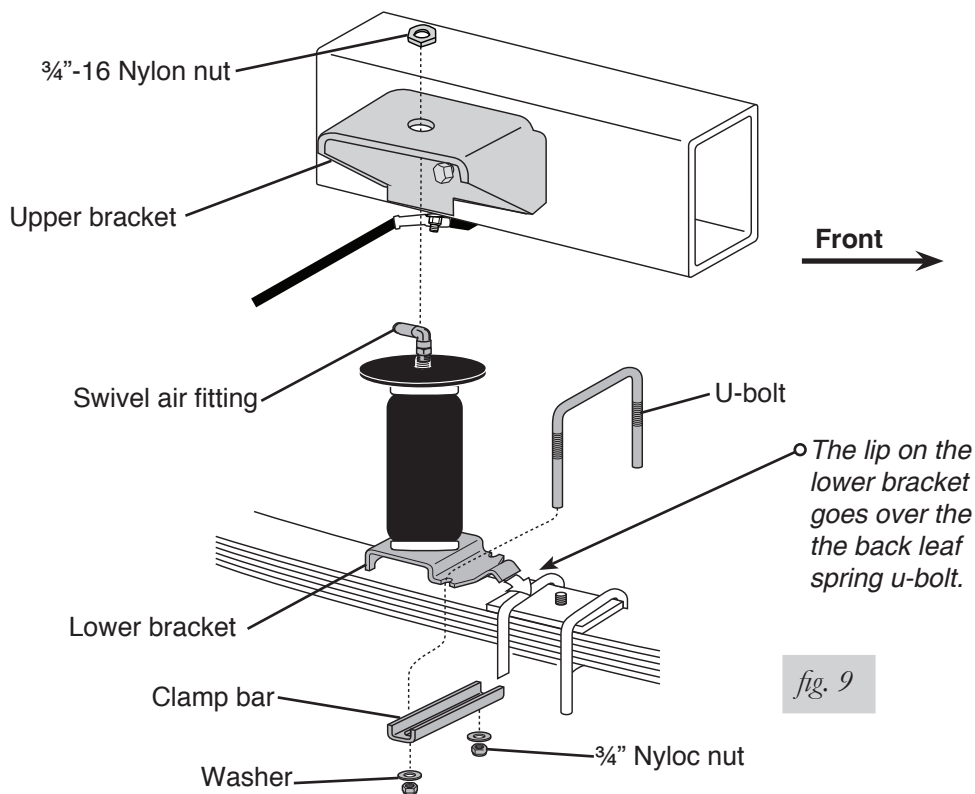

fig. 9
1. Attach the assembly to the upper bracket, allowing the swivel air fitting to go through the top of the bracket (fig. 9). Attach the air sleeve to the top bracket using a ¾" nyloc nut. Tighten nut. DO NOT torque over 4 ft/lbs.
2. Set assembly onto the leaf springs so that the lip on the front side of the lower bracket hooks over the rear stock u-bolt (fig. 9).
3. Attach the supplied u-bolt over the lower bracket and leaf springs and into the clamp bar. Cap with flat washers and nyloc nuts (fig. 9). Torque to 16 ft/lbs.